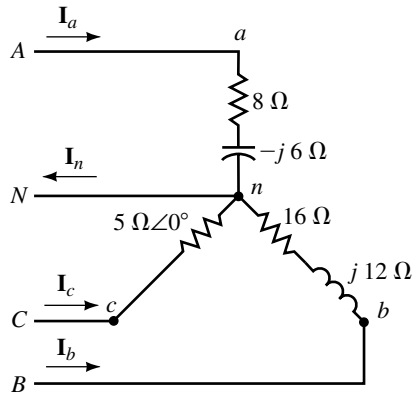

FIGURE 23–36
1. Using KVL and the results from Example 23–16, compute the voltage between neutral points n and N of Figure 23–34.
2. For the circuit of Figure 23–36, $\mathbf{E}_{AN} = 120 \text{ V} \angle 0^\circ$. Compute the currents, power to each phase, and total power. Hint: This is actually quite a simple problem. Because there is a neutral, source voltages are applied directly to the load and $\mathbf{V}_{an} = \mathbf{E}_{AN}$, etc.
EXAMPLE 23–17 For the circuit of Figure 23–37, the line voltage is 240 V. Take $\mathbf{V}_{ab}$ as reference and do the following: